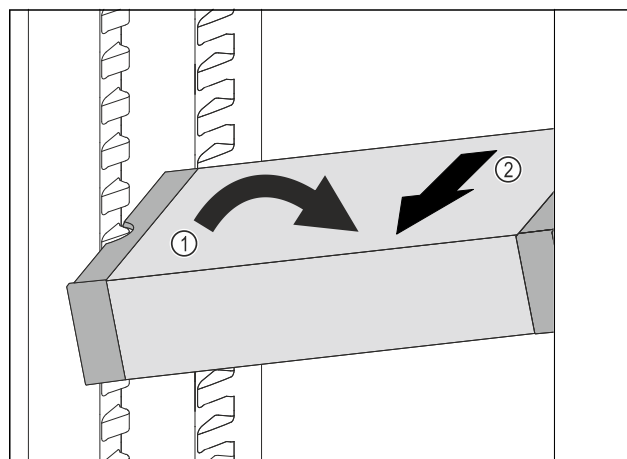

Fig. 137
- Set VarioSafe in refrigerator compartment at an angle. *Fig. 137 (1)*
- Take VarioSafe out to the front. *Fig. 137 (2)*